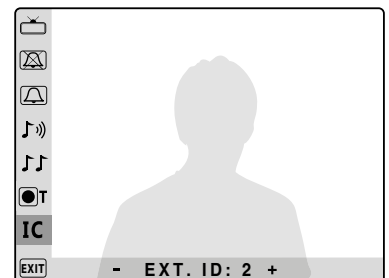

Fig. 4G
- To set the intercommunication among extensions in the same apartment (videophones with the same PHONE ID but with different EXT. ID) select an EXTENSION ID for this device from 1 to 9 (**Fig.4G**) by pressing the buttons + and —. In stand-by mode, by pressing the button  one or more times you will be able to call the videophones with EXT. ID from 1 to 9 within the same apartment.